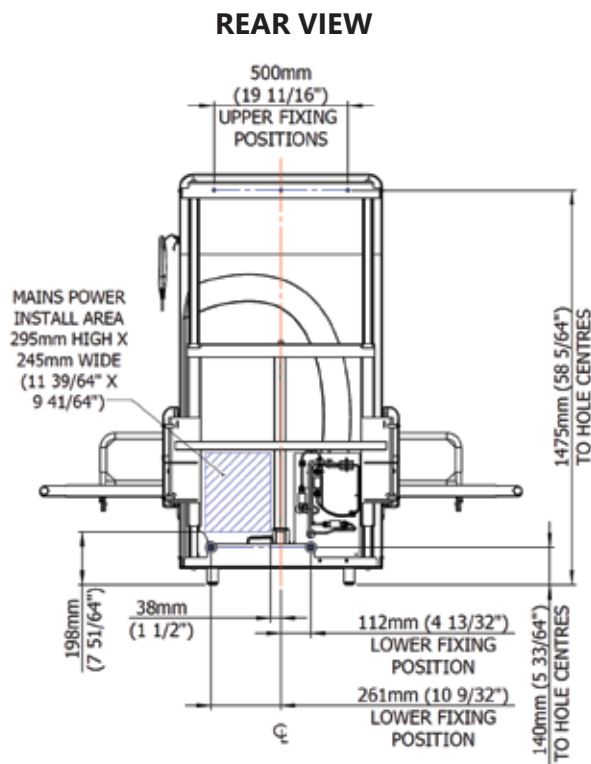

Figure 12.1
- A 230 V (110 Volt in U.S.), 1.25 kW mains supply is required through a waterproof, switched flex outlet. This must be fitted in the Mains Power Install Area (as shown in Fig 12.1).
- Position the SBU against the wall in the approximate mounting position which will allow the mains power cable to reach the junction box and puts the flex outlet within the defined install area (Figure 12.1). Ensure it feeds behind the actuator.